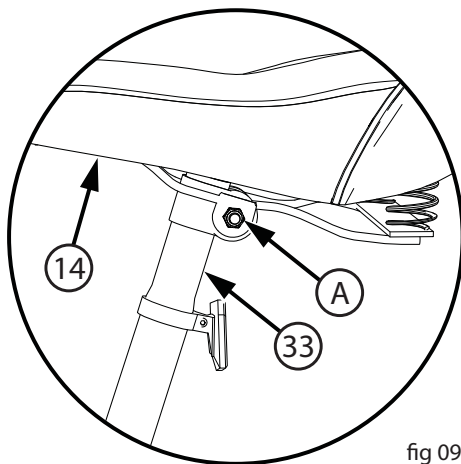

fig 09
### Attach Seat to Seat Post (fig 09):
- **If the seat moves in the Seat Clamp (A) (fig 09):**
- **If the Seat Post (33) moves in the Seat Tube (B):**